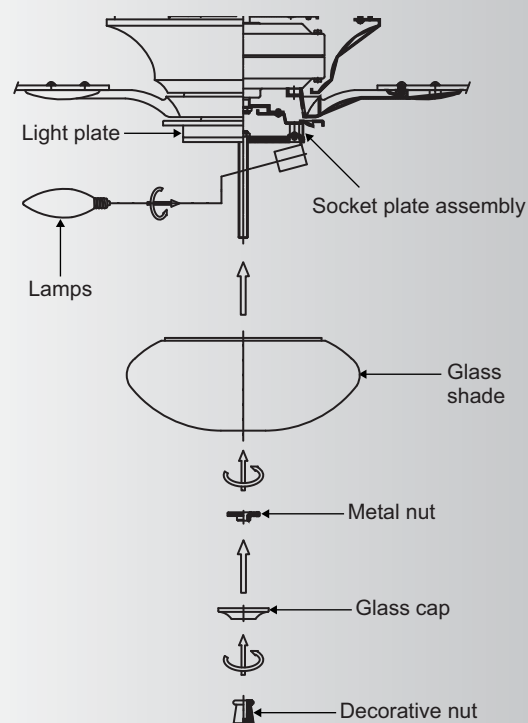

Fig. 20
Step 1. Install 3, 40W candelabra bulbs (included). (Fig. 20)
Step 2. Remove the decorative nut, glass cap and metal nut from the light kit. Place glass shade over the light kit stem, secure with the metal nut (rubber side on the top), glass cap and decorative nut. Do not overtighten. (Fig. 20)